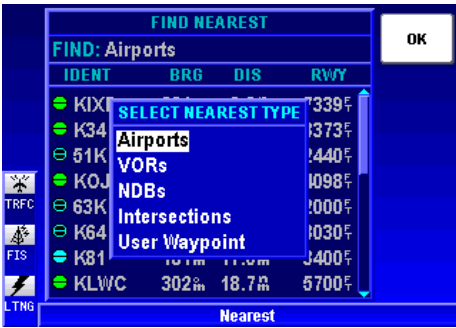
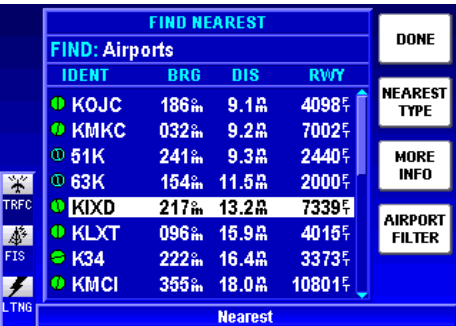

Figure 1-57
Figure 1-58
3. To change to one of the other Find parameters, press the **NEAREST TYPE** Softkey to display the **SELECT NEAREST TYPE** window as shown in Figure 1-57.
6. If Airports is selected as the type (as in Figure 1-57), pressing the **AIRPORT FILTER** Softkey (Figure 1-58) will display the **AIRPORT FILTER CRITERIA** Window as shown in Figure 1-59.